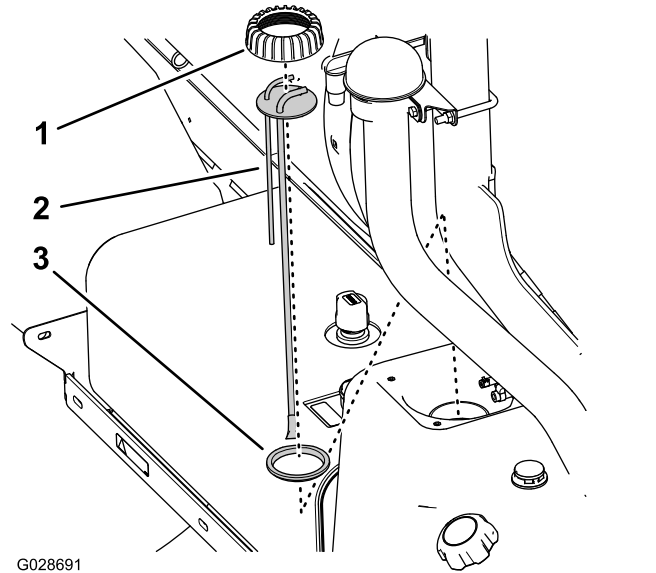

Figure 58
5. Rotate the standpipe cap counterclockwise to remove the cap (Figure 58).
6. Lift the standpipe assembly from the fuel tank (Figure 58).
1. Assemble the standpipe cap over the stand pipe and the standpipe to the seal as shown in Figure 58.
2. Align the cap, standpipe, and seal to the tank and carefully insert the new stand pipe assembly into the fuel tank (Figure 58).
3. Thread the cap onto the neck of the fuel tank and tighten the cap hand tight (Figure 58).